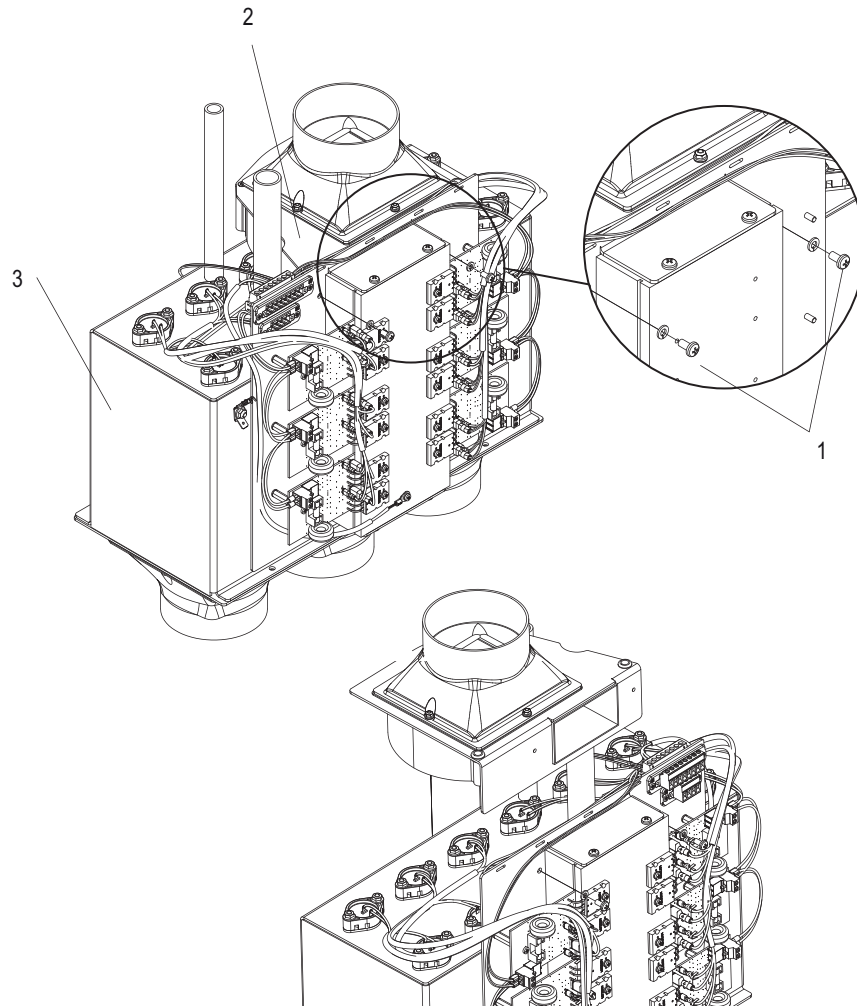

Figure 19 - Removal of Fan Assembly
3. Remove the two screws that secure the fan assembly to the water reservoir. Refer to Figure 19 - on the next page.
4. Install the fan assembly and secure it to the water reservoir with the two screws. Refer to Figure 19 - on the next page.